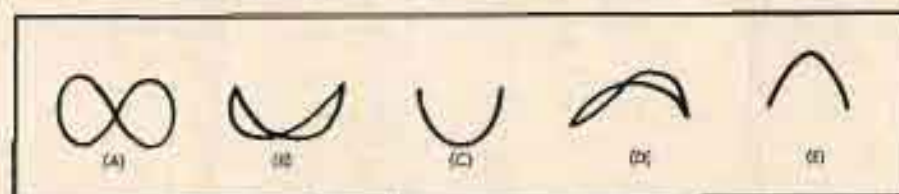

Fig. 3. Lissajous patterns for observing synchronization of 38-kc signal (vertical) with 19-kc signal (horizontal).
c. Observe the resultant patterns (one of those illustrated in Fig. 3 may be observed). The pattern indicates the amount of phase shift between the two signals.
e. The probe is then connected to the 38-kc circuits and the oscilloscope is switched to internal sweep input. The 38-kc circuits are now aligned for maximum amplitude and steady pattern as shown in Fig. 3.